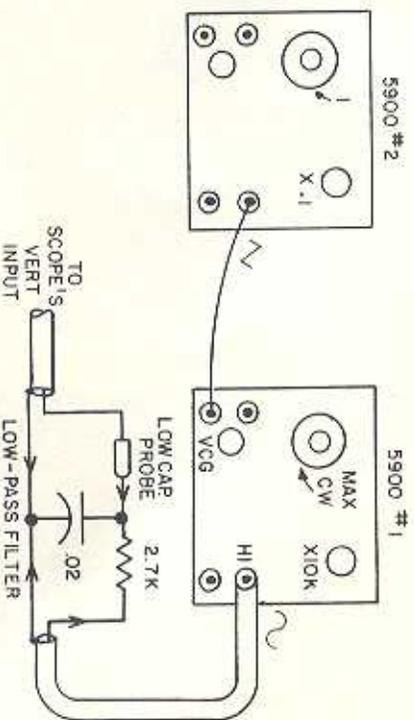

Fig. 17 To display response of Low-Pass filter
2. Connect equipment as shown in Fig. 17, being careful not to disturb the settings of the two generators.